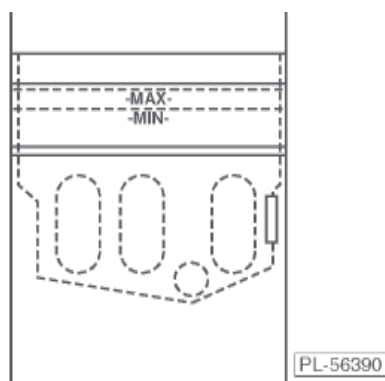

Fig. 4
2. Shortening level should be between the MIN and MAX lines in fry tank (Fig. 4). Shortening will expand when heated; do not fill the fry tank past the MAX line.